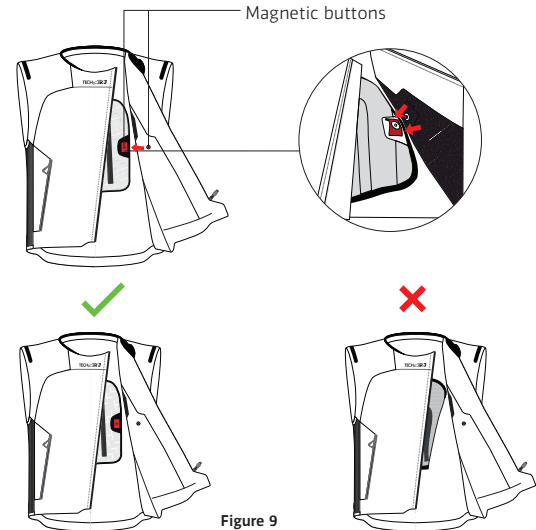

Figure 9
1. Put on the System and fix the Airbag present in the chest area using the magnetic buttons present on the vest (Figure 9).
2. Close the Activation Zip (1) from the bottom to the top and wait for the System to switch on
3. The correct closure of the Activation Zip (1) and the switching on of the System are signalled by the switching on of the LED Display (2) and by the presence of a vibration in the same area
4. Once the System is switched on, check the LED Display (2) to verify that the System has started correctly (see Section 13 "LED Display Indications"). In particular, the user must verify that, after the System start-up, no System fault is present.